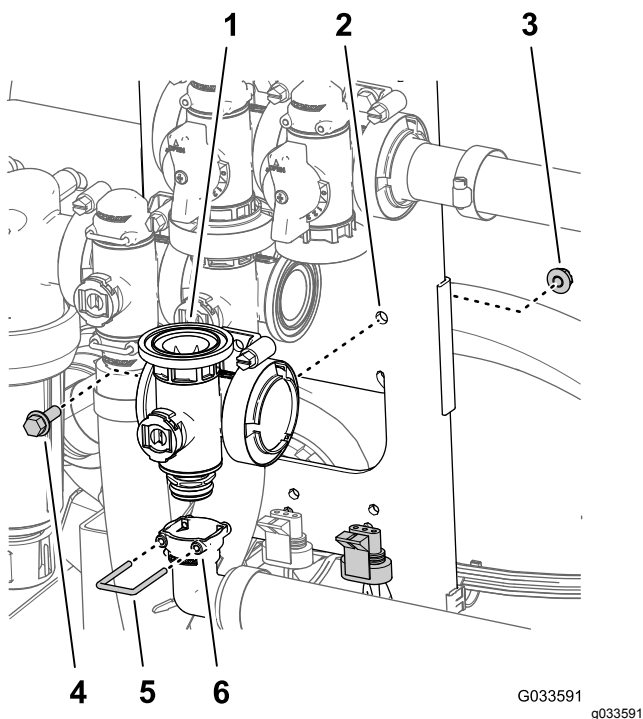

Figure 127
5. Align the socket of the 90° outlet fitting onto the coupling fitting at the at the bottom of the manifold for the master-boom valve (Figure 127).
6. Secure the outlet fitting coupling fitting by inserting a retainer into the socket of the outlet fitting (Figure 127).